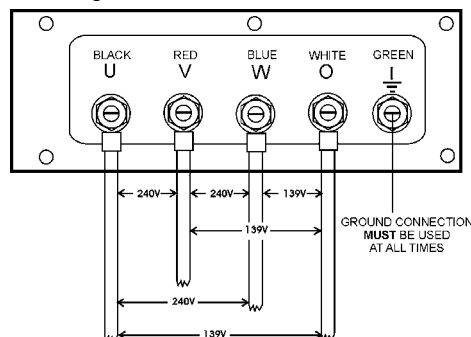

Figure 11. UVWO Terminal Lugs 3Ø-240V/1Ø-139V Connections
1. Connect the load wires to the UVWO terminals as shown in Figure 11.